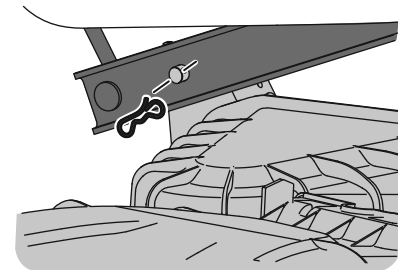

Figure 43
11. Looking at the deck from the left side of the tractor, locate the bow-tie pin on the rear left side of the deck. See Figure 43.
12. Remove the pin and slide the deck pin out of the deck lift arm. See Figure 43.